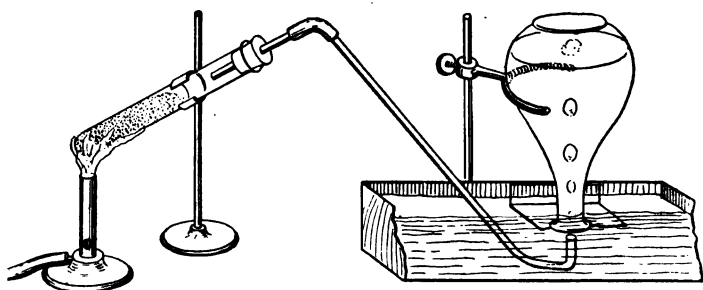

FIG. 22. — Preparing oxygen from potassium chlorate and manganese dioxide.
36. How to Prepare Oxygen. Mix a small quantity of potassium chlorate with an equal amount of manganese dioxide and place the mixture in a strong test tube. Close the mouth of the tube with a one-hole rubber stopper in which is fitted a long, narrow tube, and clamp the test tube to an iron support, as shown in Figure 22. Fill the trough with